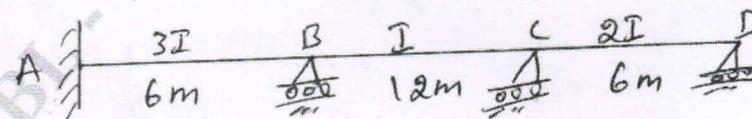

Fig. Q4 (b)
- b. Develop the global stiffness matrix for the beam shown in Fig. Q4 (b) using element stiffness method.